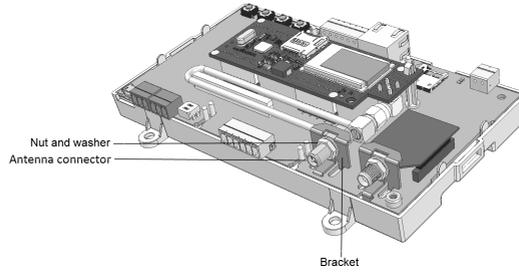

Figure 24: GSM modem on a CCG board with cables and a plastic spacer
2. Connect one end of the cable to the GSM modem, see *Figure 24*
3. Remove the nut and the washer from the other end of the cable and insert the cable through the bracket on the CCG board, see *Figure 24*
- Return and tighten the nut and washer, see *Figure 24*
- the GSM modem is firmly in place on the CCG board, see *Figure 24*.